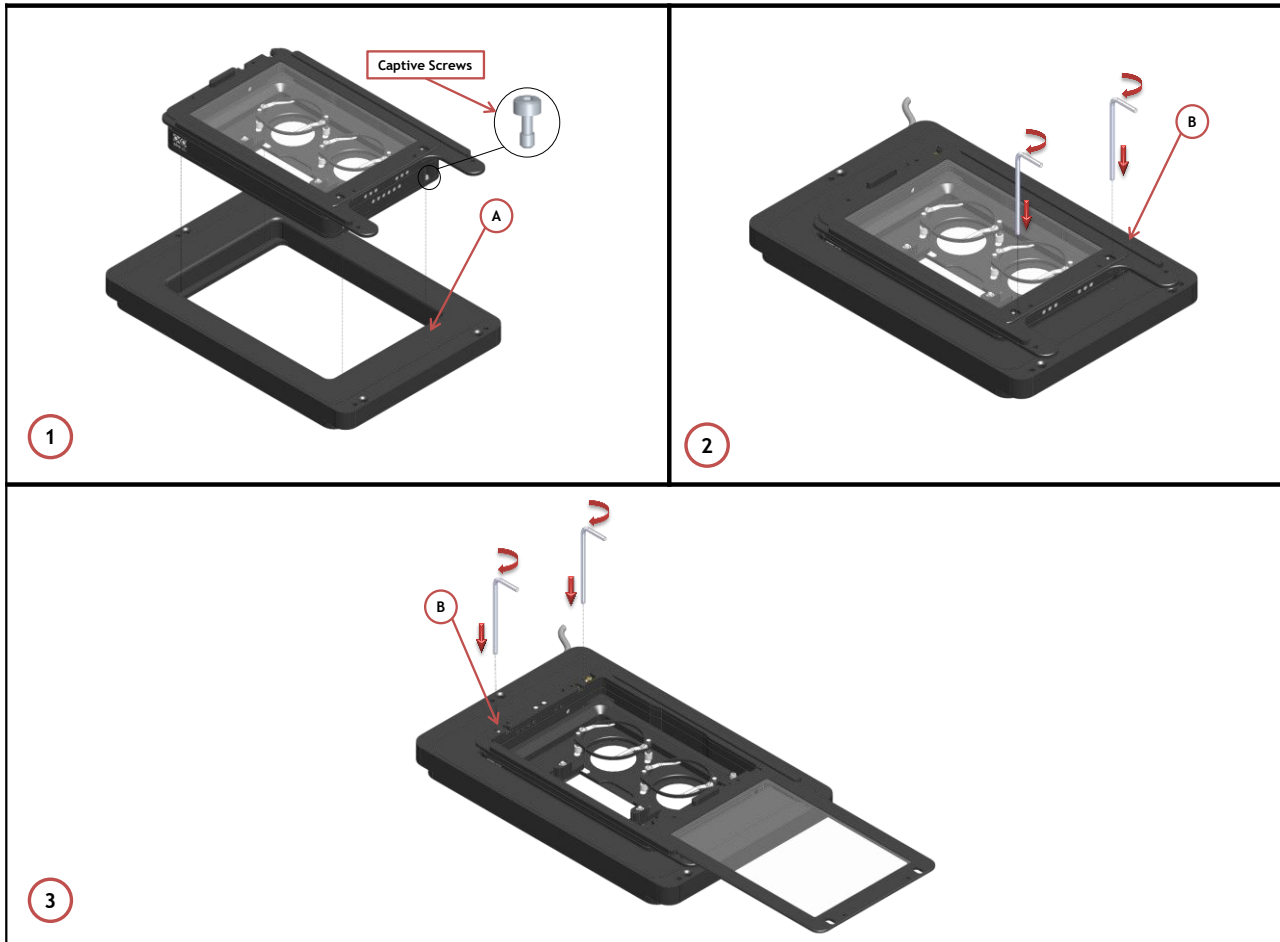

Figure 23. Connection of the Chamber with XY Stage
Follow the steps shown in the images of Figure 23 and listed below in order to correctly connect the chamber with Z piezo stage.
1. Place the chamber on the stage and tighten 2 captive screws (See Image 2 of Figure 23). Captive screws housings are indicated with letter B in Image 2 of Figure 23
2. Use a 1.5mm metric Allen Wrench to tighten the two captive screws (B in Image 3) while keeping the chamber sliding lid closed (See Figure 23 Image 3)